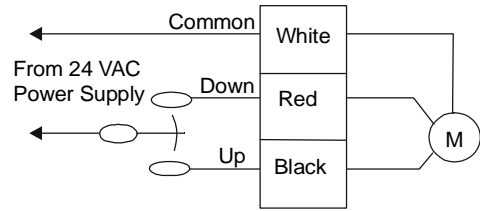

Figure 7: Wiring for the VA-8020
4. Wire the actuator as shown in Figure 7.